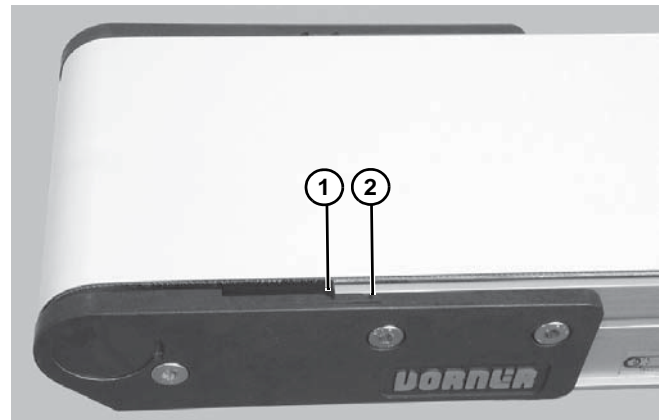

Figure 31
2. Adjust head plate assembly so end of conveyor frame aligns with or between the head plate tensioning marks (Figure 31, item 1 & 2). Replace belt if proper tensioning can not be obtained while aligning the end of the conveyor frame with or between the tensioning marks. See NOTE.